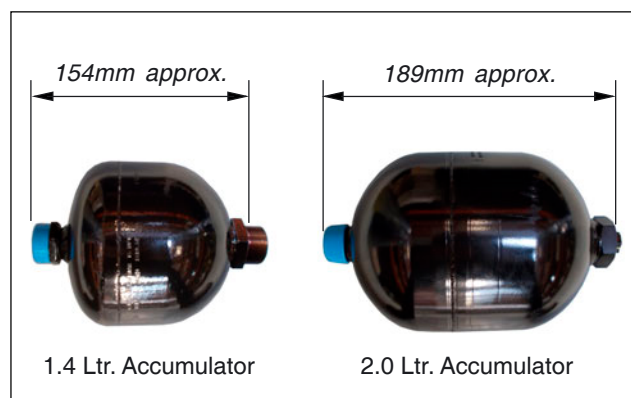

Fig 5
**Standard ScanStone plough bodies are fitted with 1.4 litre accumulators and AR+ Double Action plough bodies are fitted with 2.0 litre accumulators, Fig 5.**